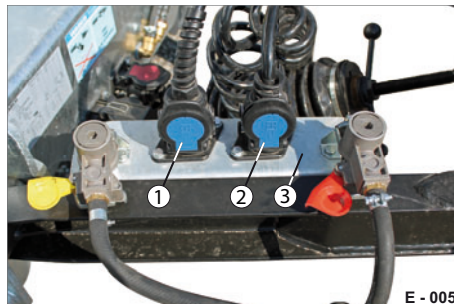

Fig. 5 Park position on tongue
- ▶ Pull the plug out of the parking socket (Fig. 5/2) and insert the plug (15-pin) into the towing machine.
- ▶ Pull the plug out of the parking socket (Fig. 5/1) and insert the plug (7-pin) into the towing machine.